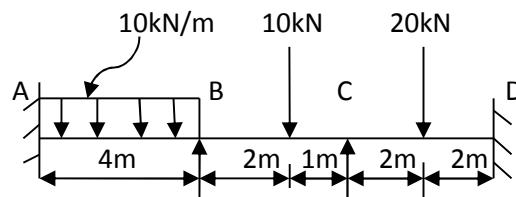

Fig.3
5. Analyse the beam shown in fig.3 below using Kani's method. $EI = \text{Constant}$